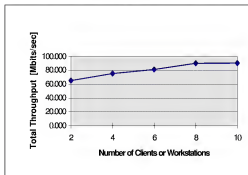

Figure 7. Result of total throughput
**Note:** Bar (A) in Fig. 7 -- 0 IRE
Figure 7 is a graphical representation of one Ethernet segment of 10-Mb/s and 100-Mb/s clients (IPX protocol). The results are from a NetBench 4.0 monitoring session where Total Throughput was captured for a ProLiant 1500 server equipped with a NetFlex-3/P Controller (100-Mb/s TX Module). The graph illustrates that the Total Throughput increased as the number of clients increased, then leveled off at 8 clients.